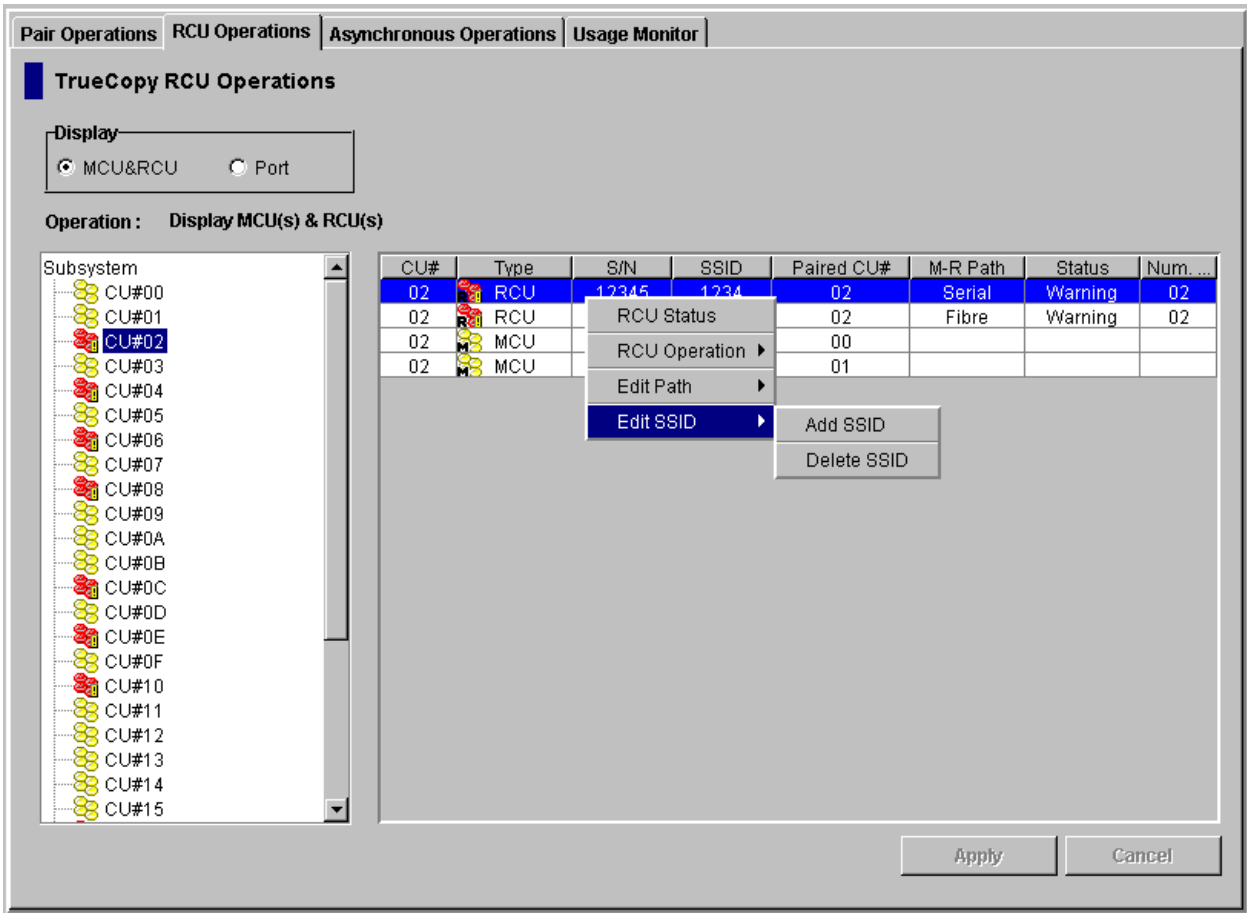

Figure 4.21 Opening the Add SSID Panel
3. Right-click on the RCU, select **Edit Path**, and then select **Add Path** to open the Add Path panel (see Figure 4.21).